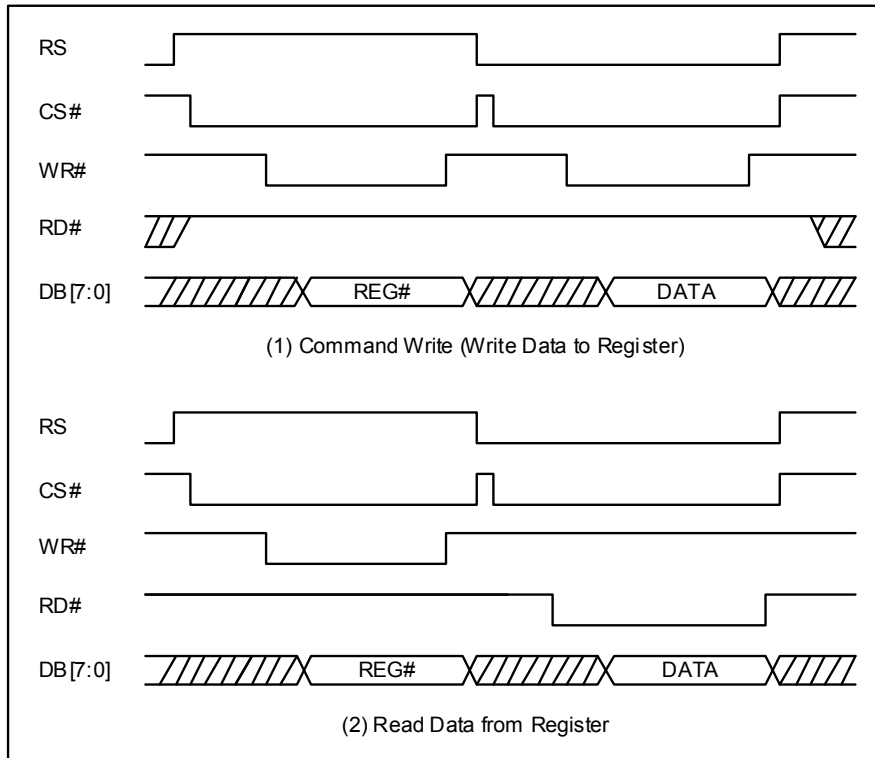

Figure 6-23 : Register Write/Register Read
RA8875 contains dozens of registers. If users want to write a command into the register of RA8875, they must execute the command write cycle first, i.e. the address of register, and then execute the data write cycle for storing a new data into the target register. So “Write Command” means that it will write a new data into the register. Please refer to the Figure 6-23 (1) for the related access timing.
To read the register contents of RA8875, it has to execute the command write cycle first, and then a “Data Read cycle” follows it. Please refer to the Figure 6-23 (2). But please note that the Figure 6-23 is based on 8080 interface.